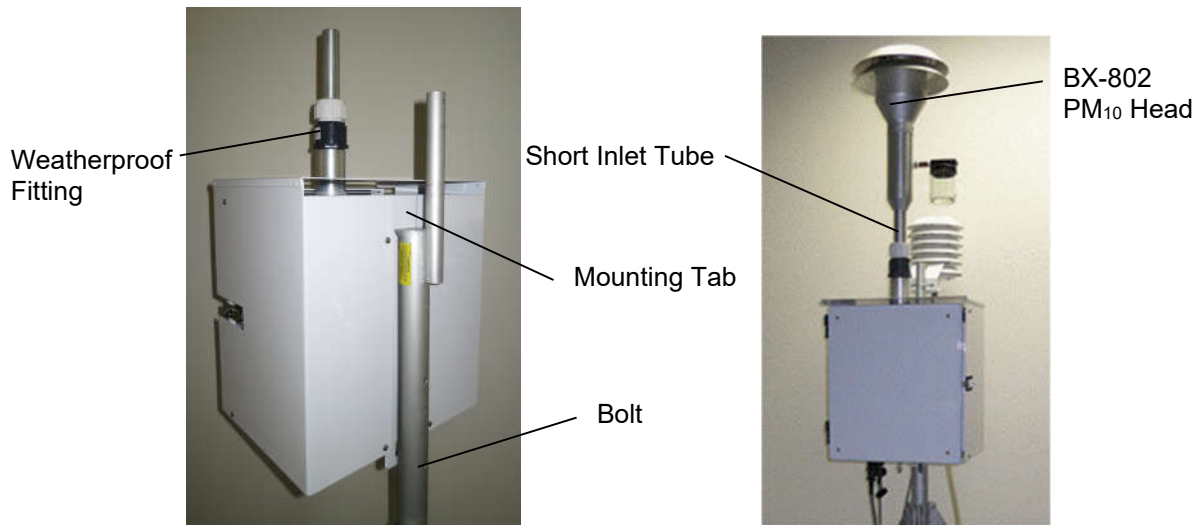

Figure 2-2 Tripod Mounting of the E-BAM PLUS
2. **Install the E-BAM PLUS onto the tripod:** Lift the E-BAM PLUS assembly and slide the slot on the back of the E-BAM PLUS over the tab on the top of the tripod. Insert the supplied $\frac{1}{4}$ -20 bolt through the tab on the bottom of the E-BAM PLUS and through the hole in the body of the tripod (see Figure 2-2). Secure it with the supplied washers and nut. This prevents the E-BAM PLUS from shifting on the tripod.